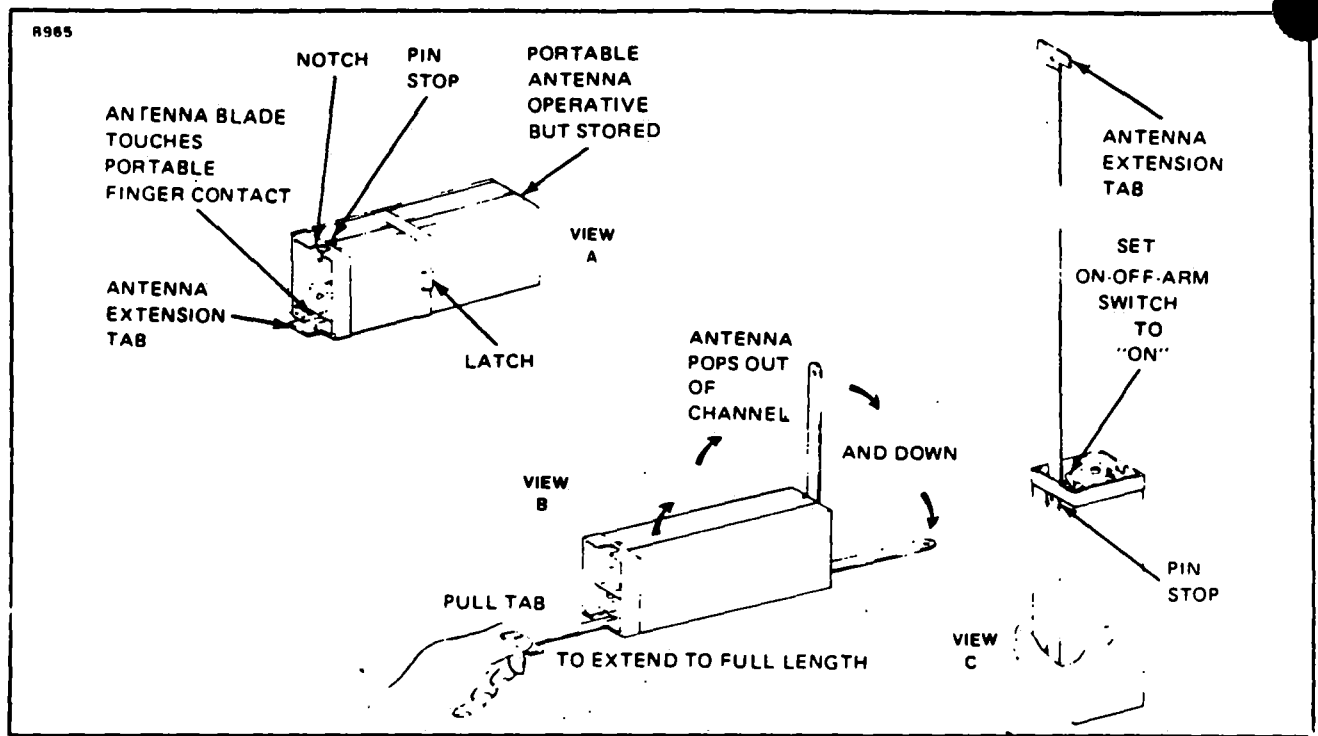

Figure 12-1. ELT Portable Folding Antenna (Narco)
**12-4. BATTERY AND REMOVAL AND INSTALLATION (NARCO). (Refer to Figures 12-1 and 12-2.)**
- l. Connect the antenna coaxial cable to the ELT and ensure that the contact separator is inserted between the antenna contact finger and the portable antenna. (Refer to Figure 12-1.)